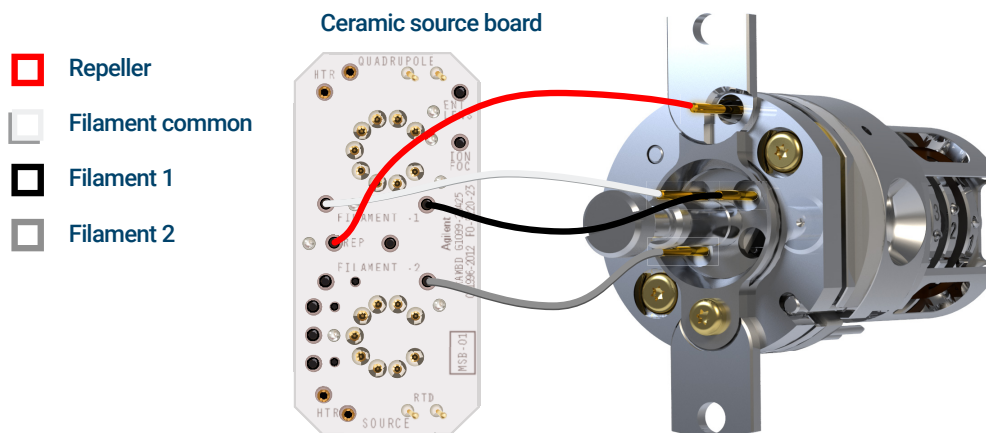

Figure 56 Wiring to be connected/disconnected during source installation or removal
- 1 Use tweezers or needle nose pliers to connect/disconnect the ceramic board wire leads (red, white, black, and gray) at the source connectors. (See Figure 56.)